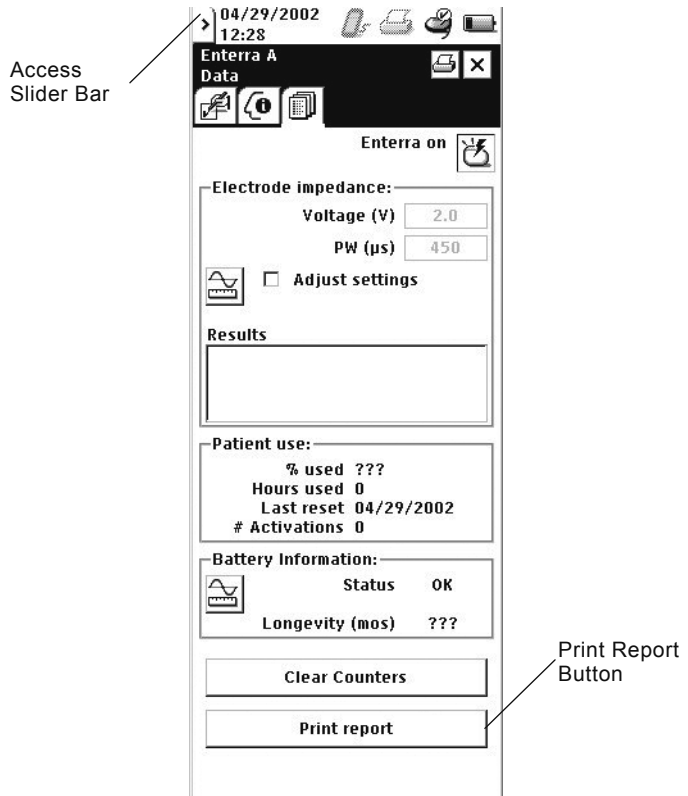

Figure 17. Accessing the print function.
2. On the Data Screen, select **Print Report** button (Figure 17).